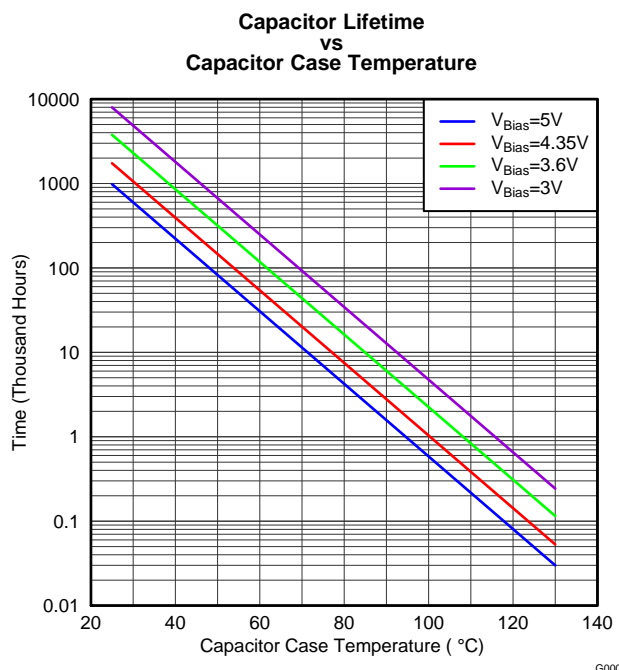

Figure 47.
Failures caused by systematic degradation can be described by the Arrhenius model. The most critical parameter (IR) is the Insulation Resistance (i.e. leakage current). The drop of IR below a lower limit (e.g. 1 MΩ) is used as the failure criterion, see Figure 47. Figure 48 (B1 life) defines the capacitor lifetime based on a failure rate reaching 1%. It should be noted that the wear-out mechanisms occurring in the MLCC capacitors are not reversible but cumulative over time.